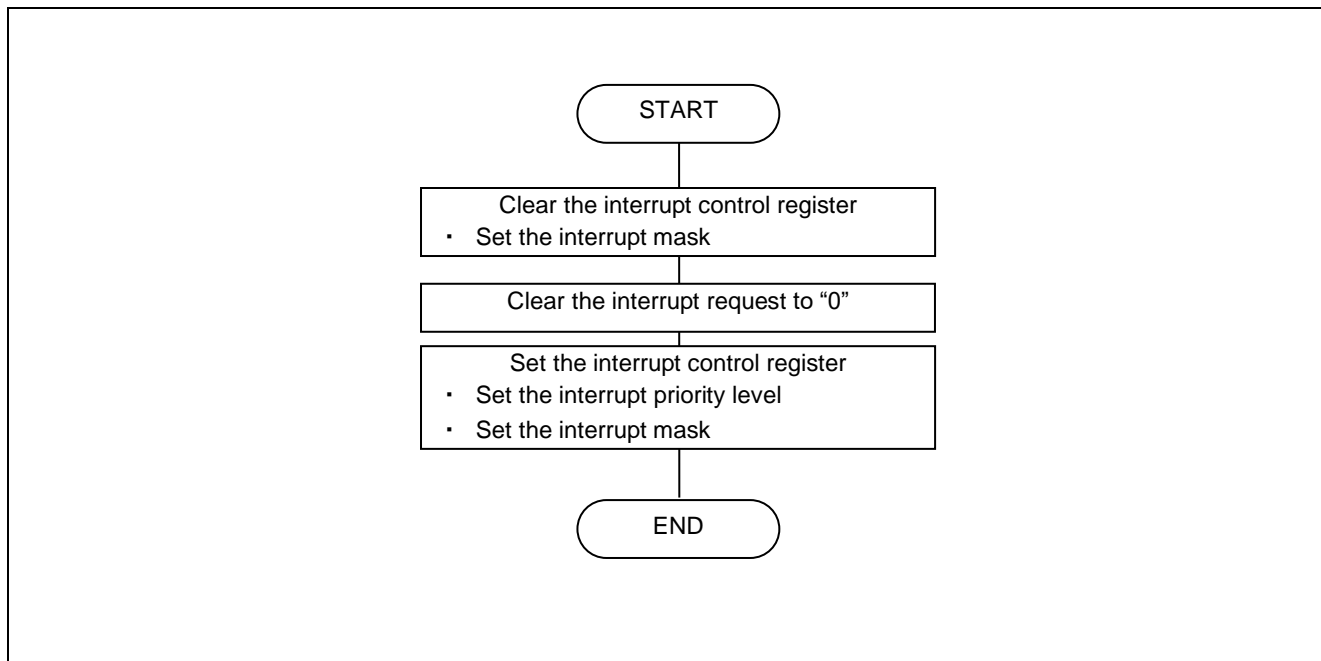

Figure 9-1 Interrupt Setting Procedure
**Figure 9-1** shows the interrupt setting procedure.